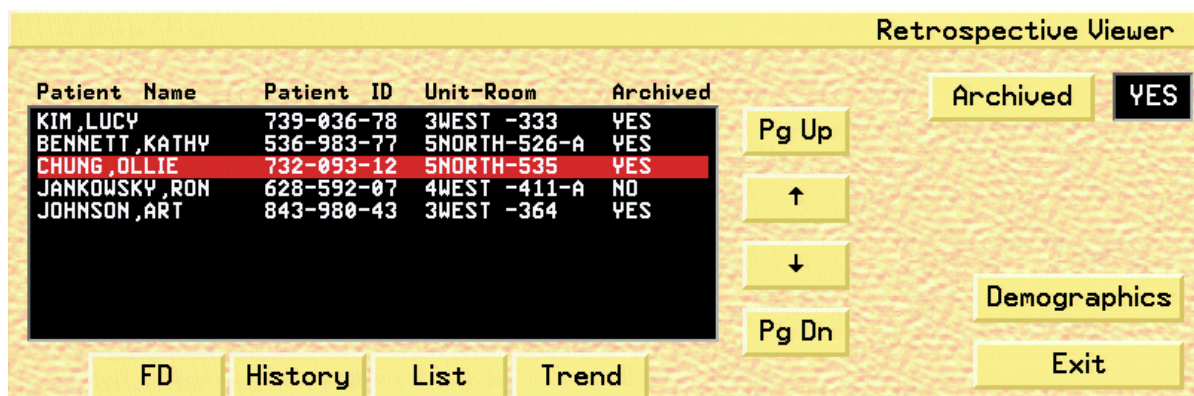

Fig. 88. Retrospective Viewer
3. Click the **Retrospective Viewer** button on the System Setup screen to display the Retrospective Viewer (fig. 88).
11. On the Retrospective Viewer (see Figure 88 on page 181), click the **FD**, **History**, **List**, and **Trend** buttons to view the selected patient's stored data on the corresponding screens.